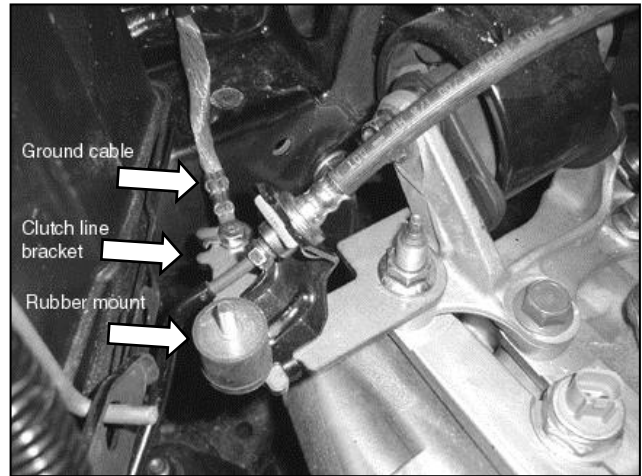

Fig.12
- j. Attach the ground cable to the new transmission bracket using the original bolt. **(Fig. 12)**